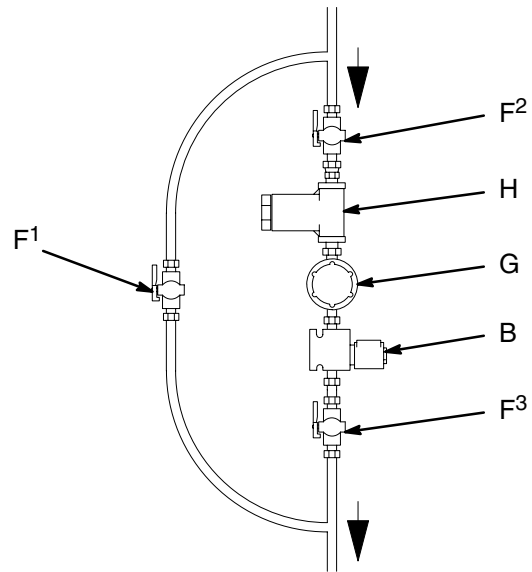

Fig. 23
In some cases, such as in mining applications, a design may be required that allows fluid to be dispensed regardless of the state of operation of the Horizon system. Fig. 23 represents the installation of a ball valve (F¹) that can be used to redirect the fluid around the Horizon pulse meter (G) and fluid solenoid (B). This is also useful when it is necessary to remove the solenoid, meter or filter (H) for cleaning or service. Ball valves F² and F³ can be used to isolate the meter and/or solenoid for service.